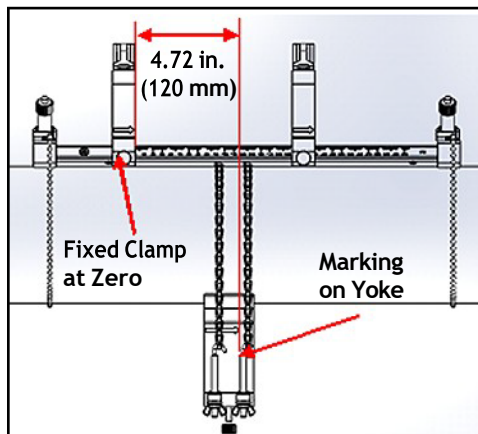

Figure 30: Yoke Set at 120 mm/4.72 in.
- Spacing <305 mm (120 mm/4.72 in. is used as an example): Measure the required 120 mm/4.72 in. distance from the edge of the fixed clamp to the marked line on the yoke (see Figure 30 below).